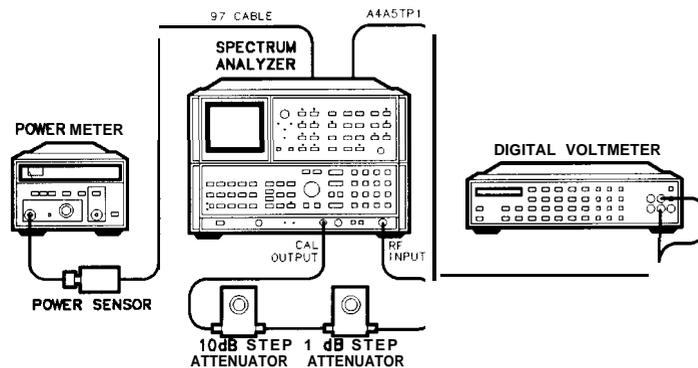

Figure 3-46.
1. Position instrument upright as shown in Figure 3-46 and remove top cover.